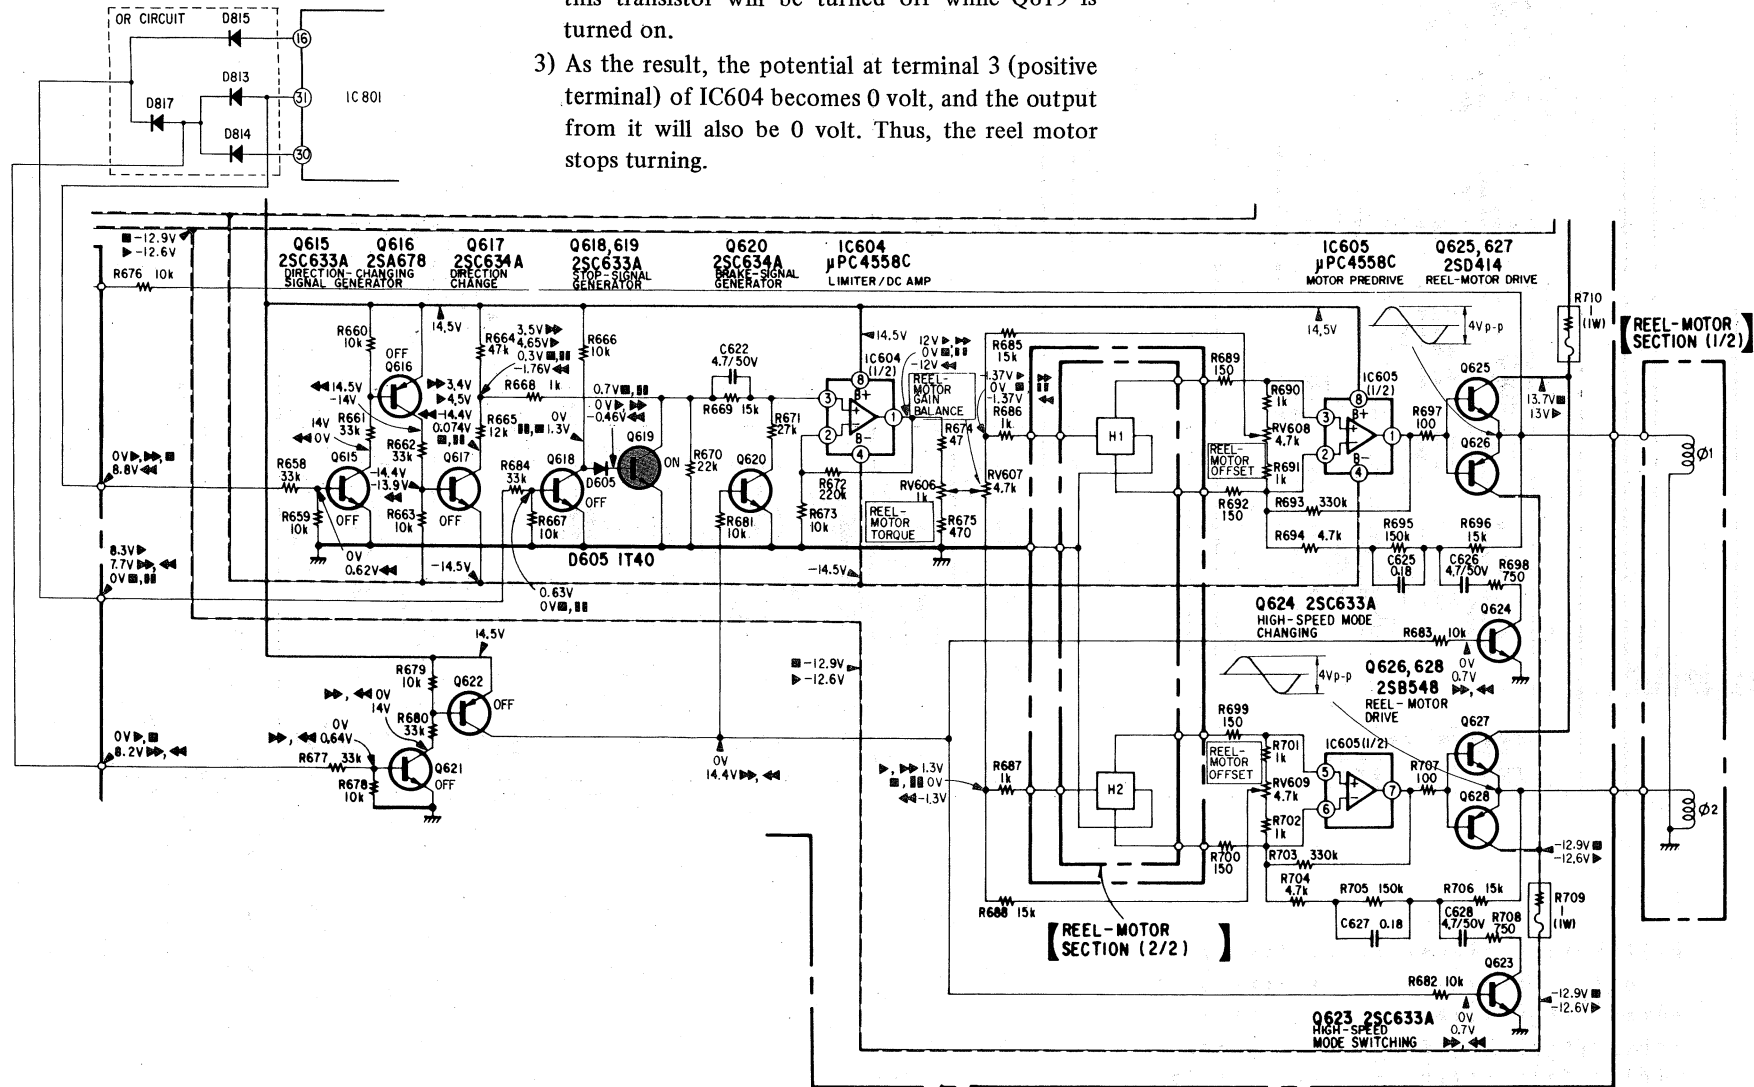

Fig. 20
4. Depressing stop button (See Fig. 20)